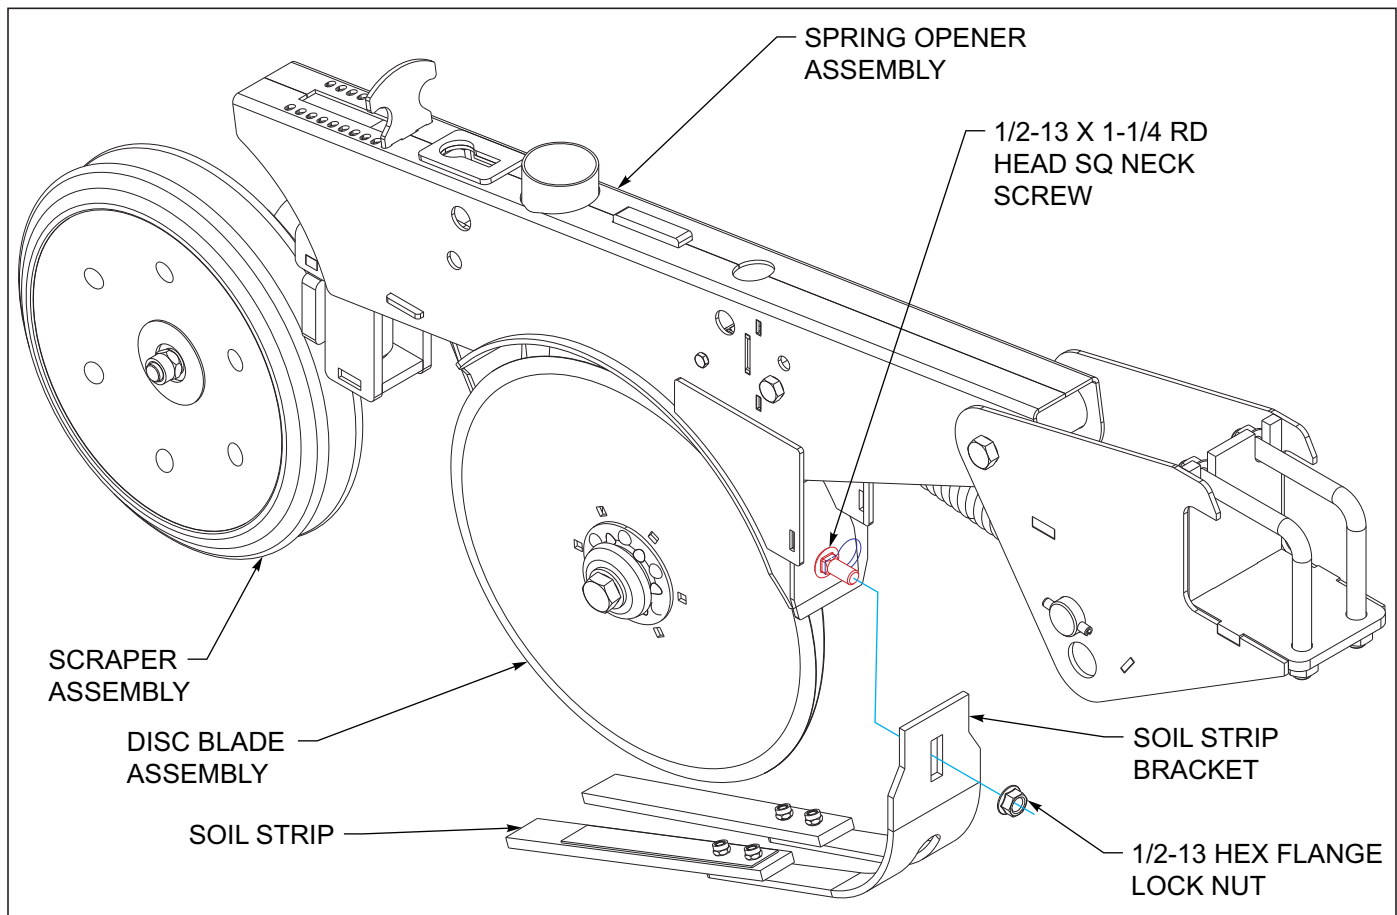

Figure 4-41: Opener Soil Strip Adjustment
4. To adjust the soil strip, loosen the 1/2-13 hex flange lock nut at the front of the soil strip bracket See Figure 4-41. The bracket may be adjusted up or down to the desired height and side to side to center on the opener blades. Re tighten the 1/2-13 hex flange lock nut.